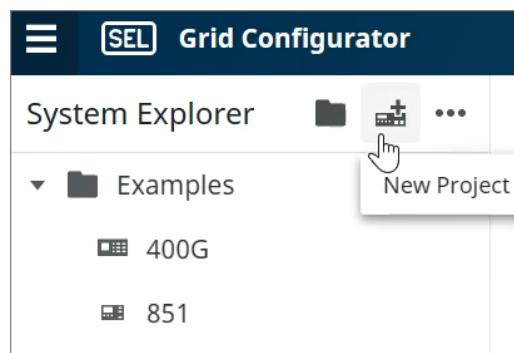
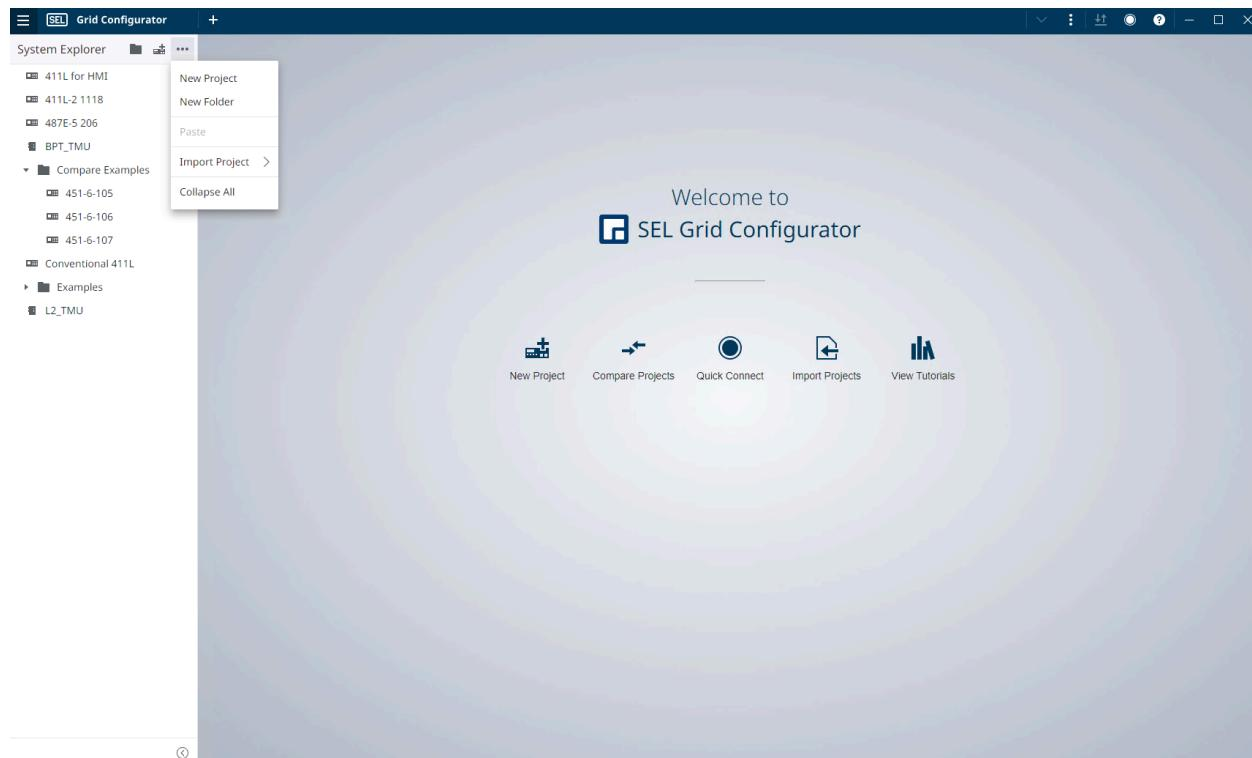

Figure 2.1 Add a New Device Project
Figure 2.2 Add New Device Project Tab
- Step 2. Create a new device either by right-clicking in the System Explorer and selecting **New Project** or by selecting the New Project icon at the top of the System Explorer, as shown in *Figure 2.1*. Alternatively, you can select the + button in the Title Bar and select **New Project** to create a new project, as shown in *Figure 2.2*.